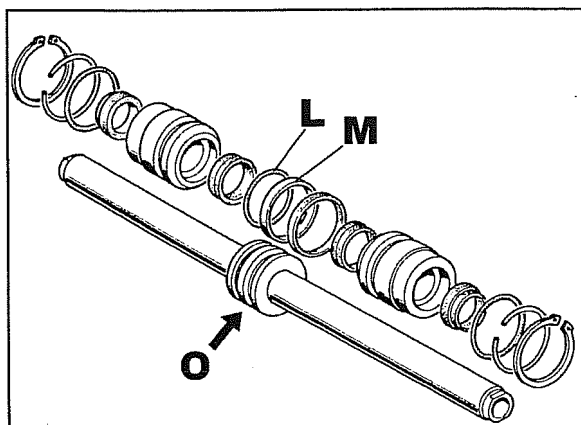
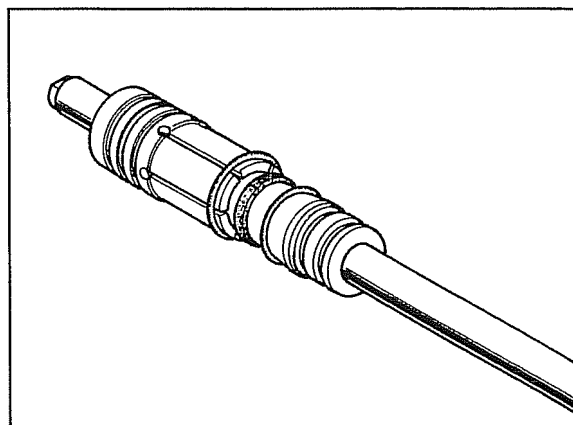

Fig. 72
Fig. 73
Fig. 72 gives an exploded view of all the internal parts of the steering cylinder.
- To fit rings **L-M** Fig. 72 in the seating **O** on the piston, use the combination punch **N** Fig. 73. It is best to heat ring **M** so that it is easier to install due to its thermal expansion.